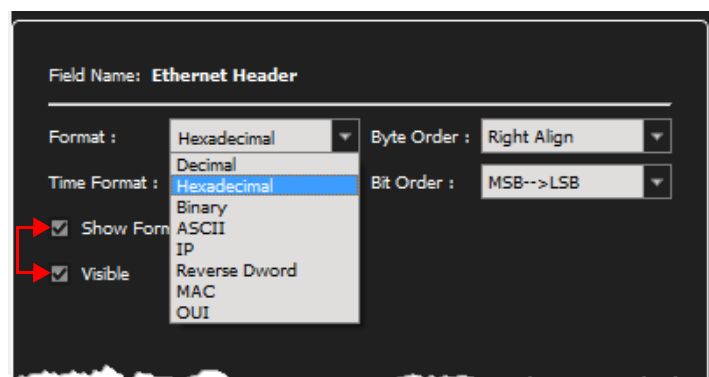

Figure 3.80: Preferences – Format Drop-Down List
3. Select **Ethernet Header**, then select the desired **Format** (e.g., **Hexidecimal**) from the Format drop-down list (Figure 3.80).